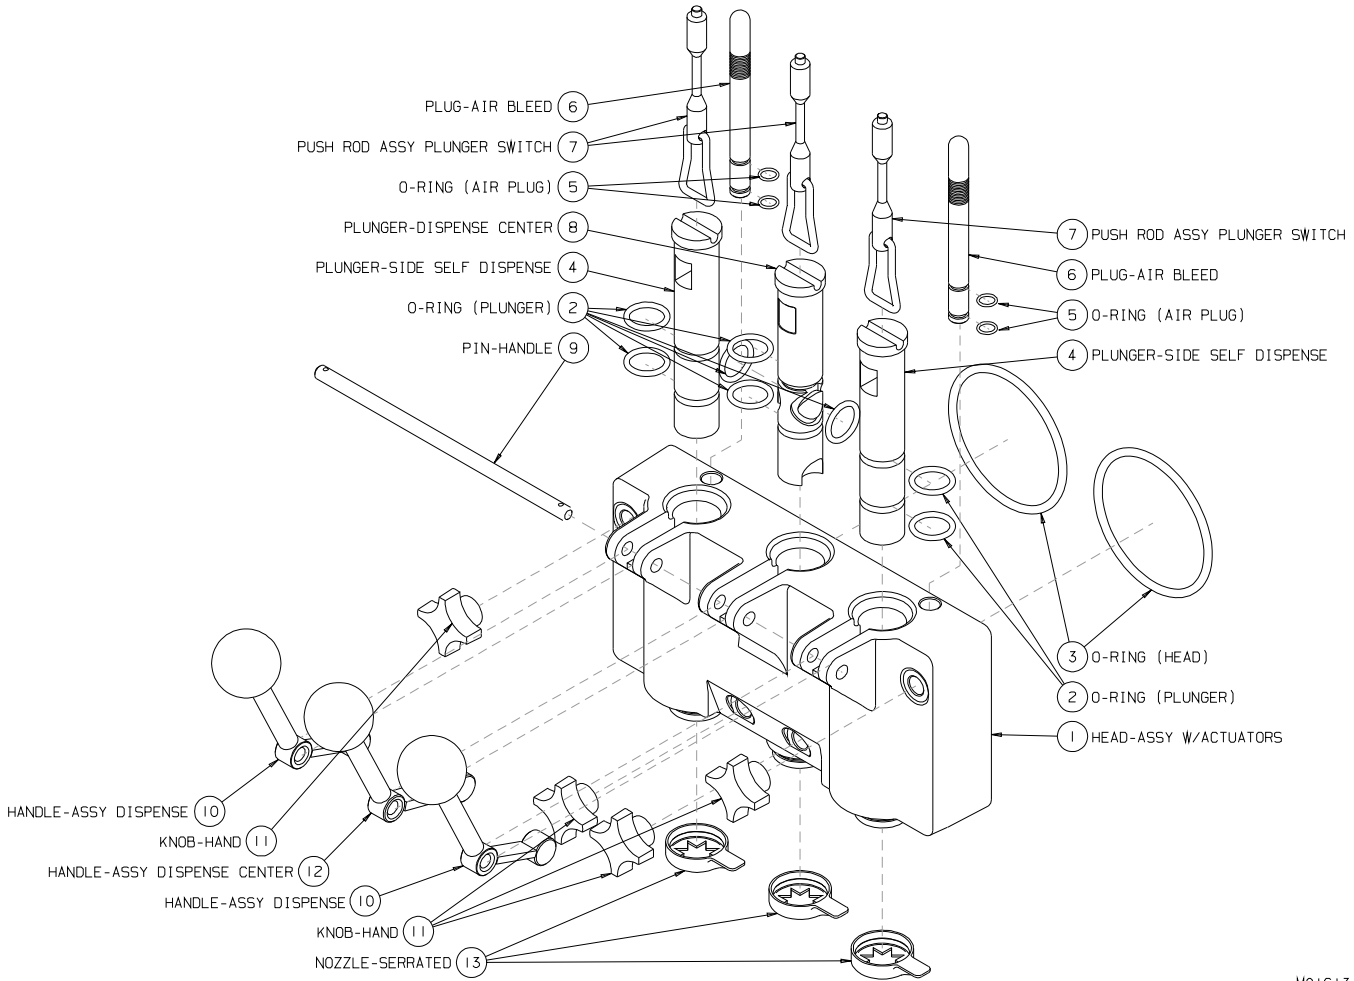

Figure 6-2 Head Assembly
2. Remove the plunger rods (7, figure 6-2) by lifting up and swinging the bottom out and down. Remove hand knobs (11) and pull the dispensing head (1) straight out.
6. From the dispense head remove the air bleed plugs (6, figure 6-2) and remove the two O-rings (2) on each plug.